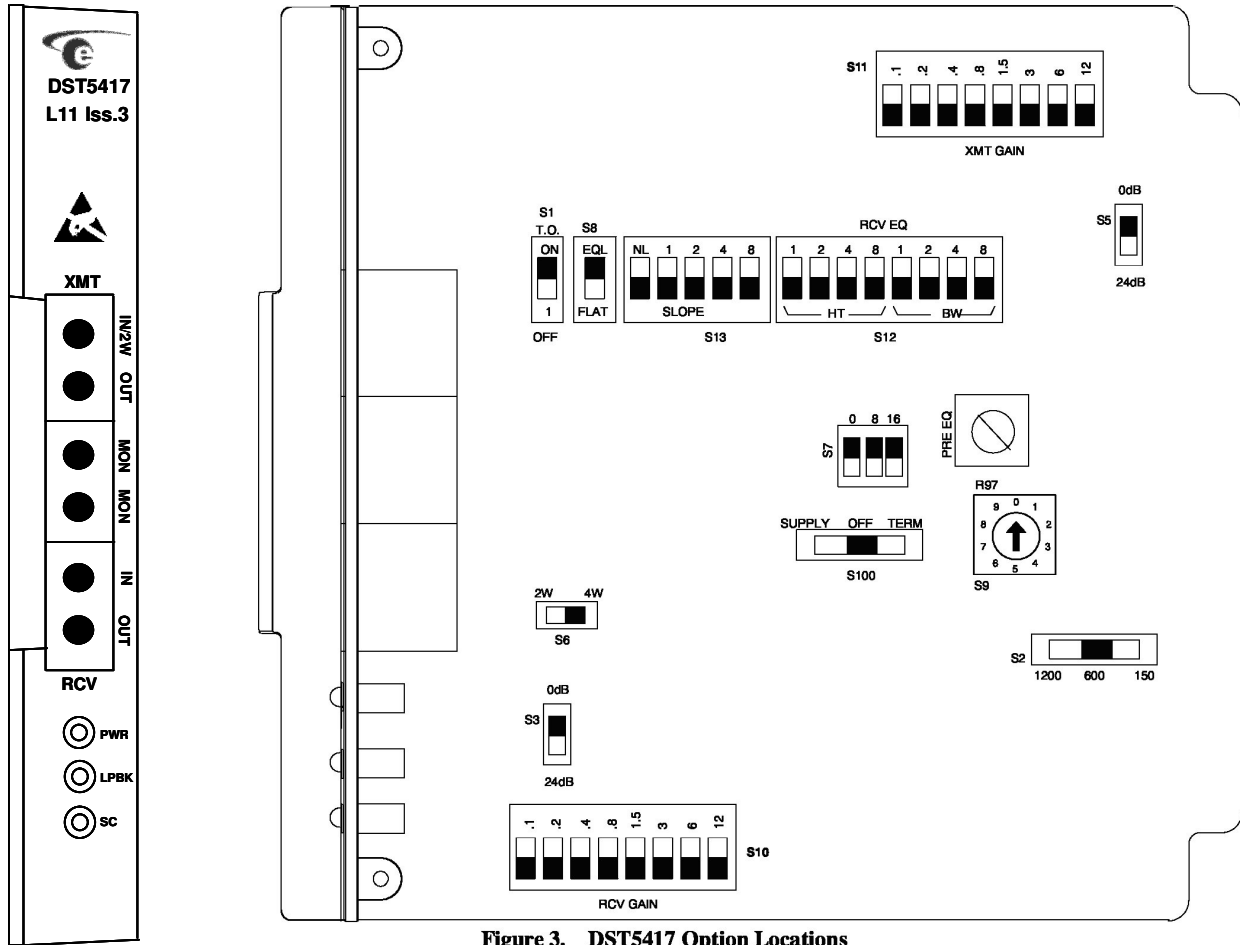

Figure 3. DST5417 Option Locations
The BW switch-sections (labeled on PCB as 1, 2, 4, and 8) are used to adjust the bandwidth of the amplitude response settings established with the HT switches. For plots of the different height values using bandwidth settings of 3 and 14, refer to the bottom two graphs in Figure 3. (Page 6) respectively.
Since the equalizer is an active device, there will be a 1 kHz gain for each of the receive equalizer settings. The 1 kHz gain for slope is shown in table form (in Figure 3) for both loaded (L) and non-loaded (NL) positions as well as the 1 kHz gain for each of the HT and BW settings. These gains are independent from each other and from the RCV GAIN settings. Thus, the 1 kHz gain of the entire receive amplifier is equal to the sum of the RCV GAIN, SLOPE, and HT and BW sections.
The DST5417 contains features and switch options located on the front and side (PCB) panels that are used to condition the module for proper application and operation. See Figure 3 and Table 1 for the locations and descriptions of these options.